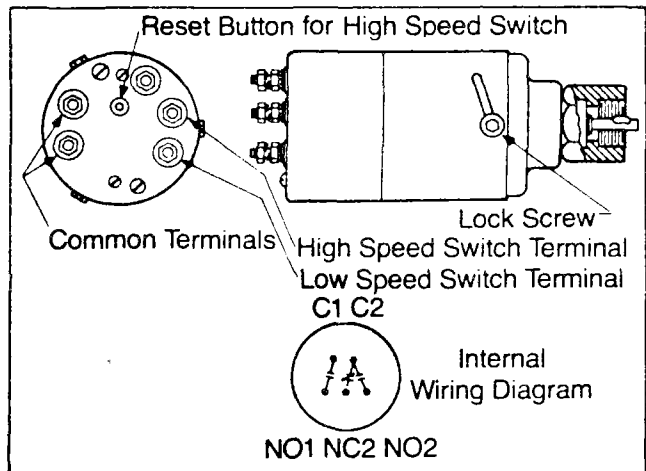

Fig. 1-22, (CGS27). Double speed switch
- a. Remove the lockwire from setscrews on the side of the switch. Loosen the three (3) setscrews.
- a. Remove the round head dust cover screw marked 2 from the top of the switch. Fig. 1-22.